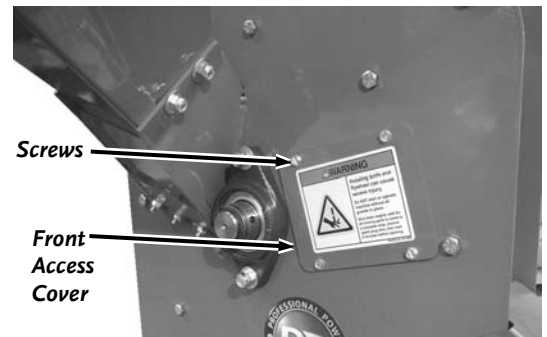

Figure 22
1. Remove the four Screws that secure the Front Access Cover with a 5/16" wrench and remove the Access Cover (**Figure 22**).